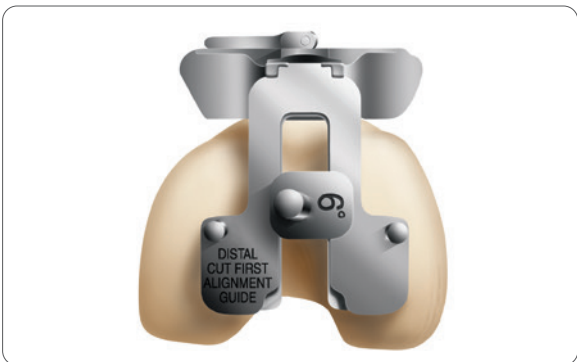

Figure 7
3. Orient rotation of the assembly neutral to the posterior condyles (**Figure 7**) and impact one or both of the floating spikes into the distal femur.